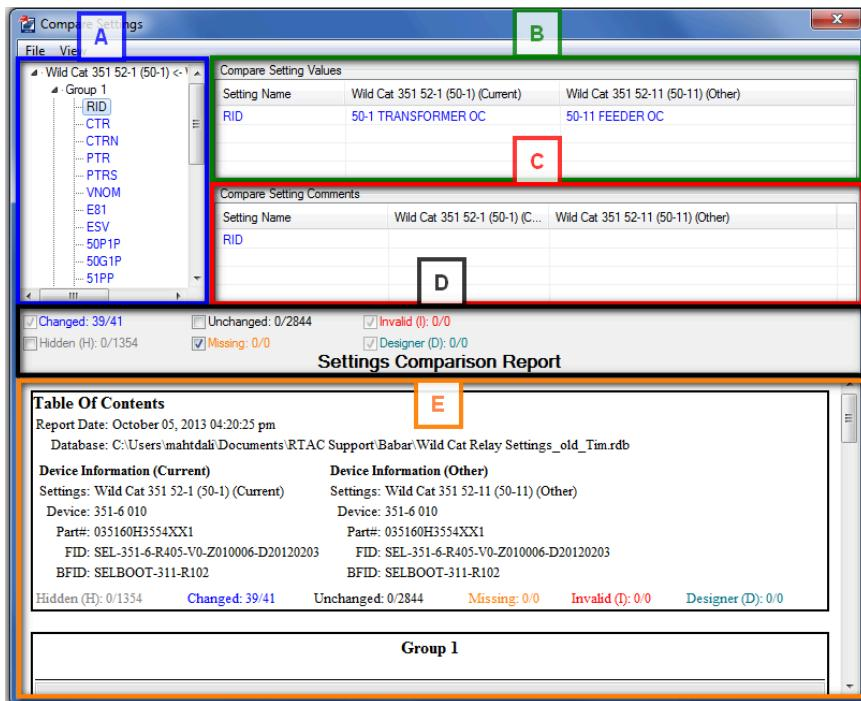

Figure 5.22 The Five Sections of the Compare Settings Window
The evaluation window, used for comparing (see *Compare Settings on page 94*), converting (see *Convert Settings on page 97*), or merging settings (see *Merge Settings on page 96*), is divided into five sections, as shown in *Figure 5.22*.
- **Section A:** The settings tree provides an interactive view that shows filtered settings comparisons. Select a single setting, as shown in *Figure 5.22*, to view the comparison of this setting in the Compare Setting Values screen and the Compare Setting Comments screen. Select a settings group to view all setting comparisons for the highlighted group.
- Changed: The settings that exist in both files but have different settings values. In *Figure 5.22*, the **RID** setting is classified as changed, because this setting exists in both files, but the value varies between the two.
The report provides two numbers next to each category separated by a slash. The first number indicates how many settings within this category are being viewed. The second number indicates the total number of settings within this category. In *Figure 5.22*, Changed: 39/41 means that the report is showing 39 changed settings out of 41 total possible changed settings. The two changed settings that are not being shown are hidden settings, so they will not be shown unless the **Hidden** check box is selected.